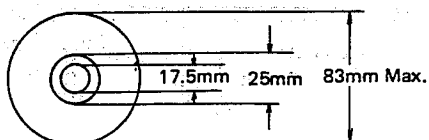

Fig. 18-8 Standard roll paper
- When using a standard roll paper shown in Fig. 18-8, set the detection frame so that the scale three (---) comes to the top of frame J.